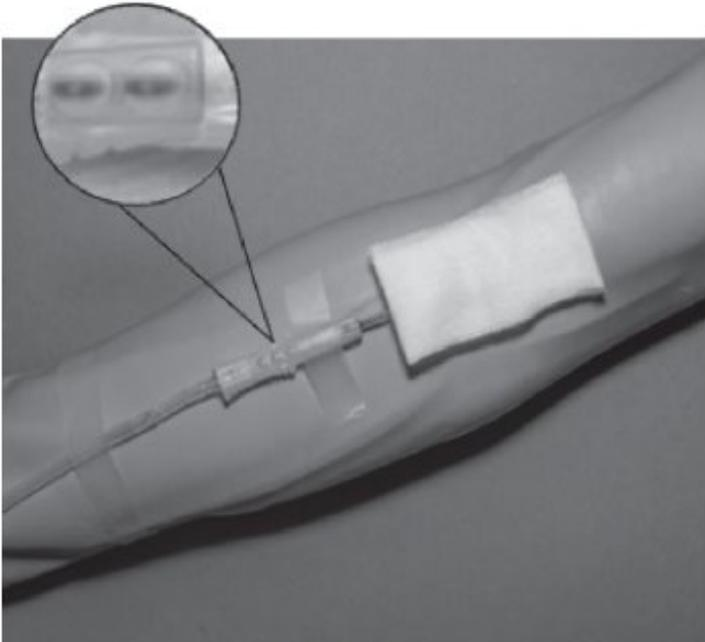

Figure 2
7. Following facility procedures, perform venipuncture and appropriately secure donor needle and/or tubing. When good blood flow is established, stabilize the front of the needle guard to arm with tape (see Figure 2).